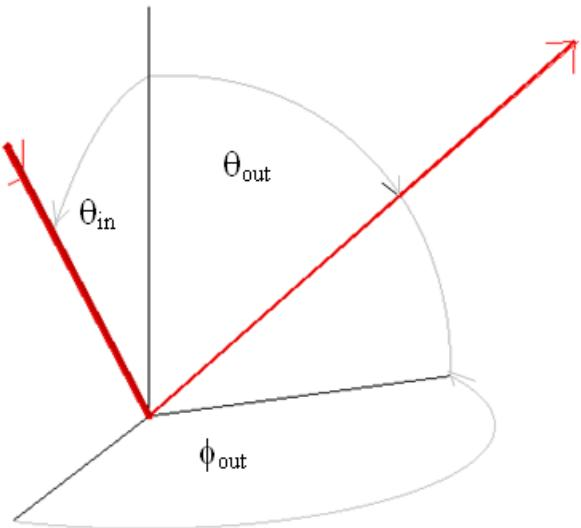

Figure 6.6 Scala track hitting a surface. The thick red line shows the input beamlet and a typical output beamlet is shown as a thin red line
- Figure 6.6 shows the local coordinate system and variables that are created at the point where a beamlet hits a surface.